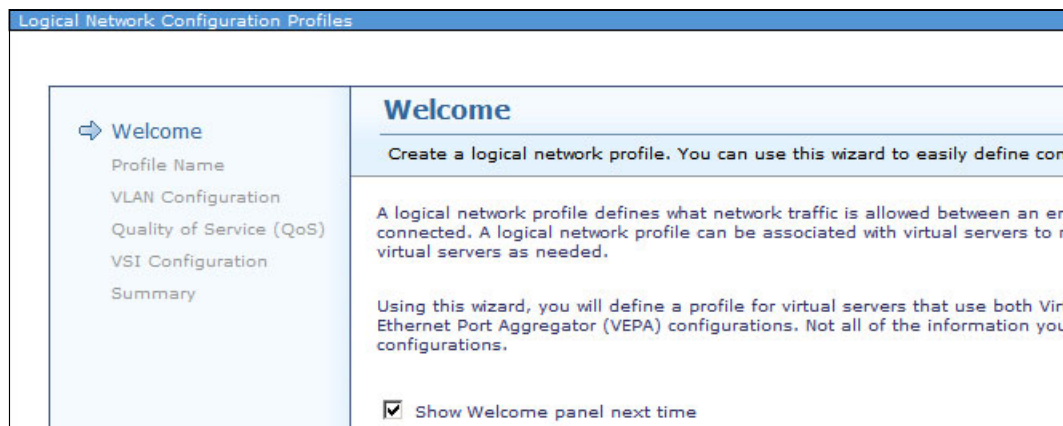

Figure 9-69 Logical network profile: Welcome page
- The Welcome page appears, as shown in Figure 9-69. Click **Next**.